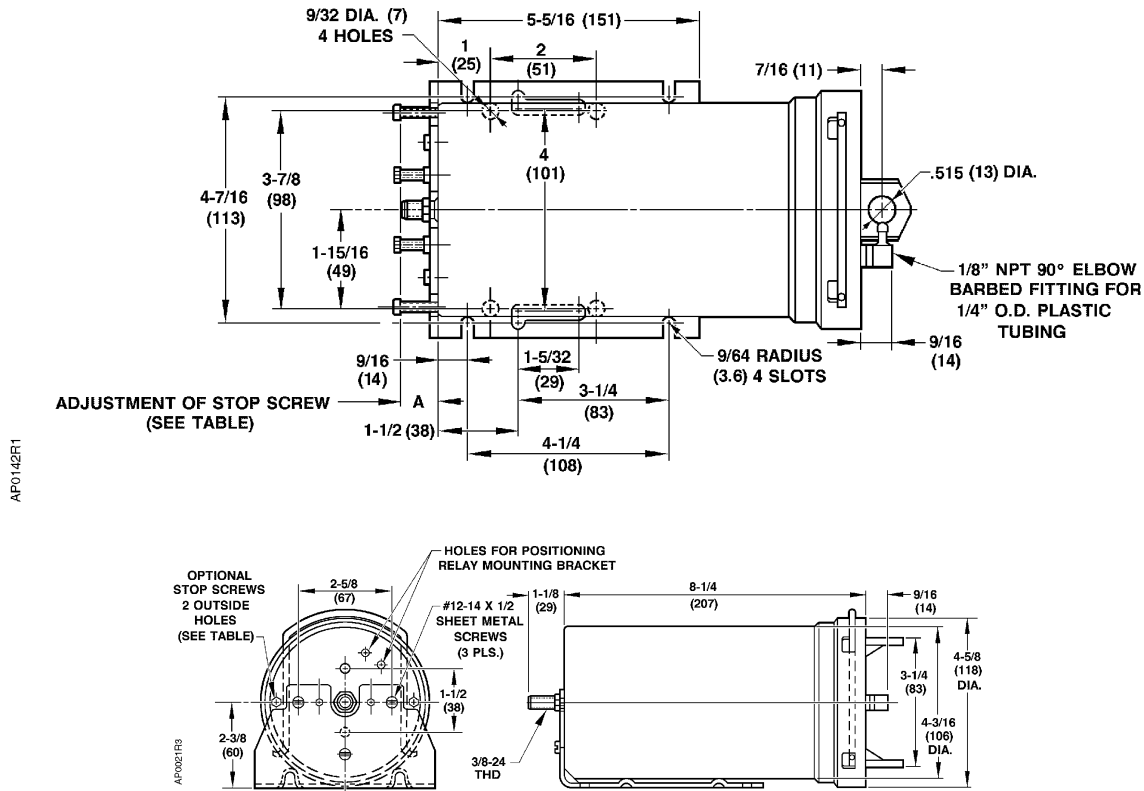

**Figure 13. Frame Mounting
- Normally closed damper: Attach the plate to the lug (Figure 13). Place the pivot post in Hole 5.